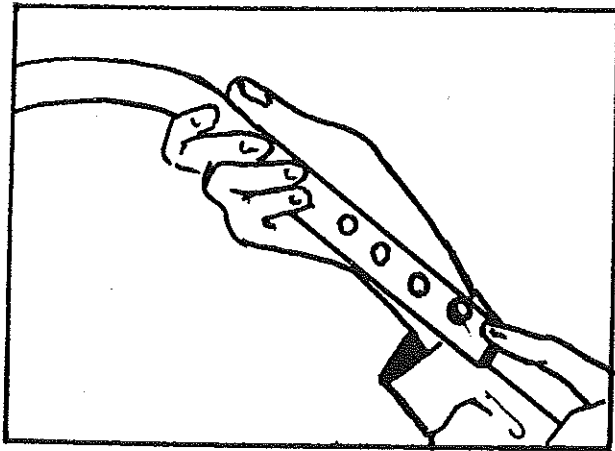

FIGURE 29
40. Adjust bed bow support as necessary to make the tent enclosure over the bed taut. This is done by pressing the release button on the pole and extending the rod to the next hole location. See Figure 29.